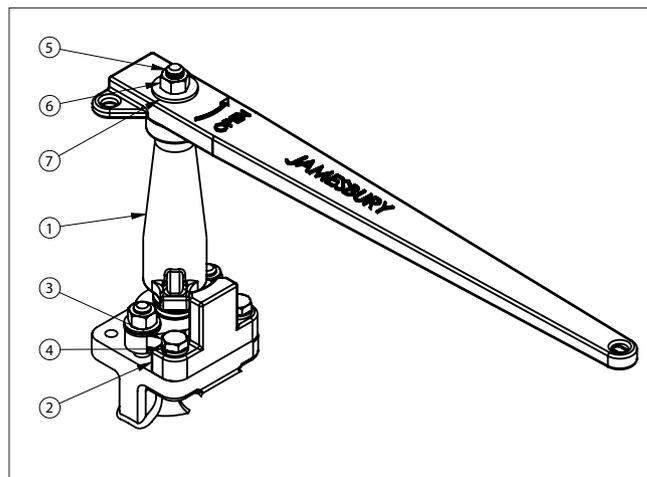

Figure 13. Stem Extension
2. Lower the handle stop (2) straight down in line with the valve stem until it is flat on the valve bonnet, and both mounting holes align with tapped holes on the valve (see **Figure 13**).
7. Install the washer (7) over the threaded rod onto the handle. Thread handle nut (6) onto threaded rod and tighten handle nut (6) to torque value listed in **Table 6**.
9. Rotate stop (2) until the stop contacts the side of the stem extension stop boss (1) (see **Figure 13**).